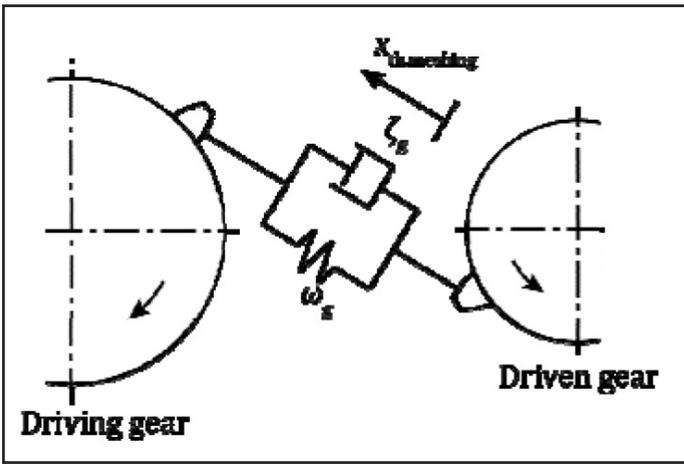

Figure 2 Vibration model in meshing gear pairs.
**Dynamic loads on gear teeth.** A simple vibration model in meshing gear pairs is used for simulation (Fig. 2). Each gear has a mass and is connected to the other by a spring and damper (Ref. 11). This vibration model — in a circumferential direction — is considered to be a single-degree-of-freedom vibration system as follows: